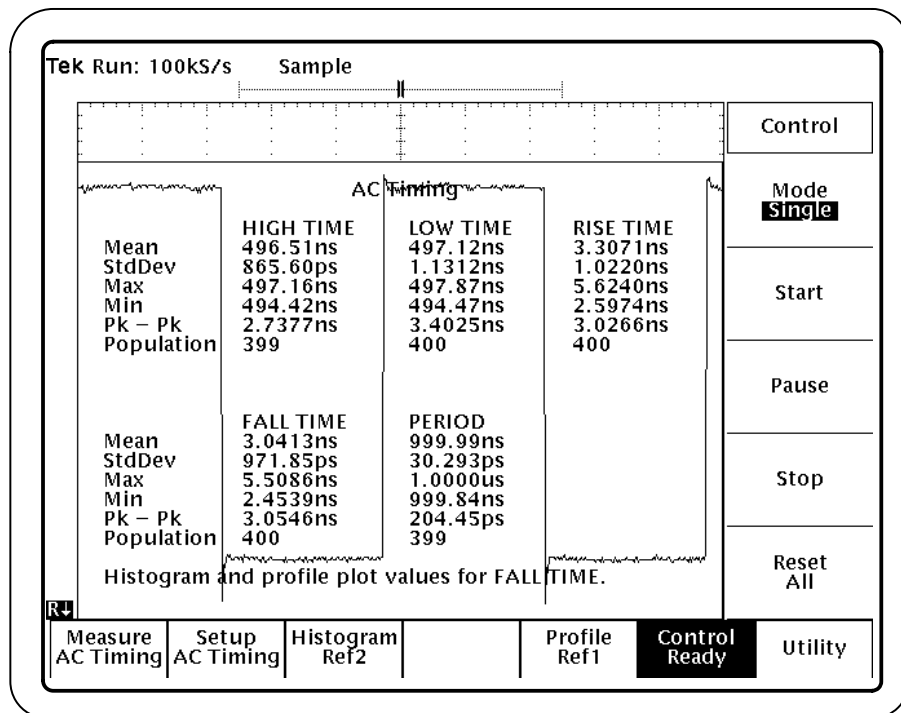

Figure 31: All AC Timing measurements lesson: Statistics readout
12. To take the measurement, press Start (side). Figure 31 shows the results.